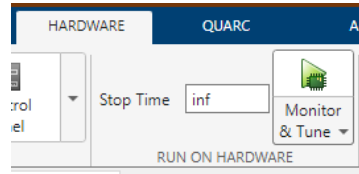

Figure 3. Hardware tab | Monitor & Tune button for compilation, target connection and deployment
1. On the Hardware tab, select the **Monitor & Tune** button as shown in figure 3, which does 4 things automatically.